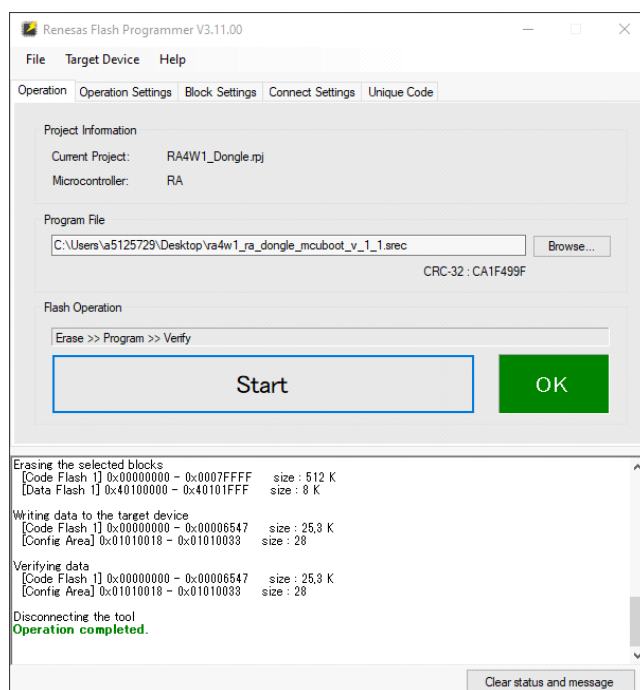

Figure 9. Successful Programming Win
8. When the process completes successfully, a green OK message in a rectangular window appears next to the **Start** button (Figure 9). Disconnect the USB cable. Disconnect the Renesas E2 Emulator or E2 Emulator Lite from the dongle and close the Renesas Flash programmer. The bootloader programming process is completed. **Important:** Always first unplug the USB cable and after unplug the Renesas E2 Emulator or E2 Emulator Lite from the dongle.